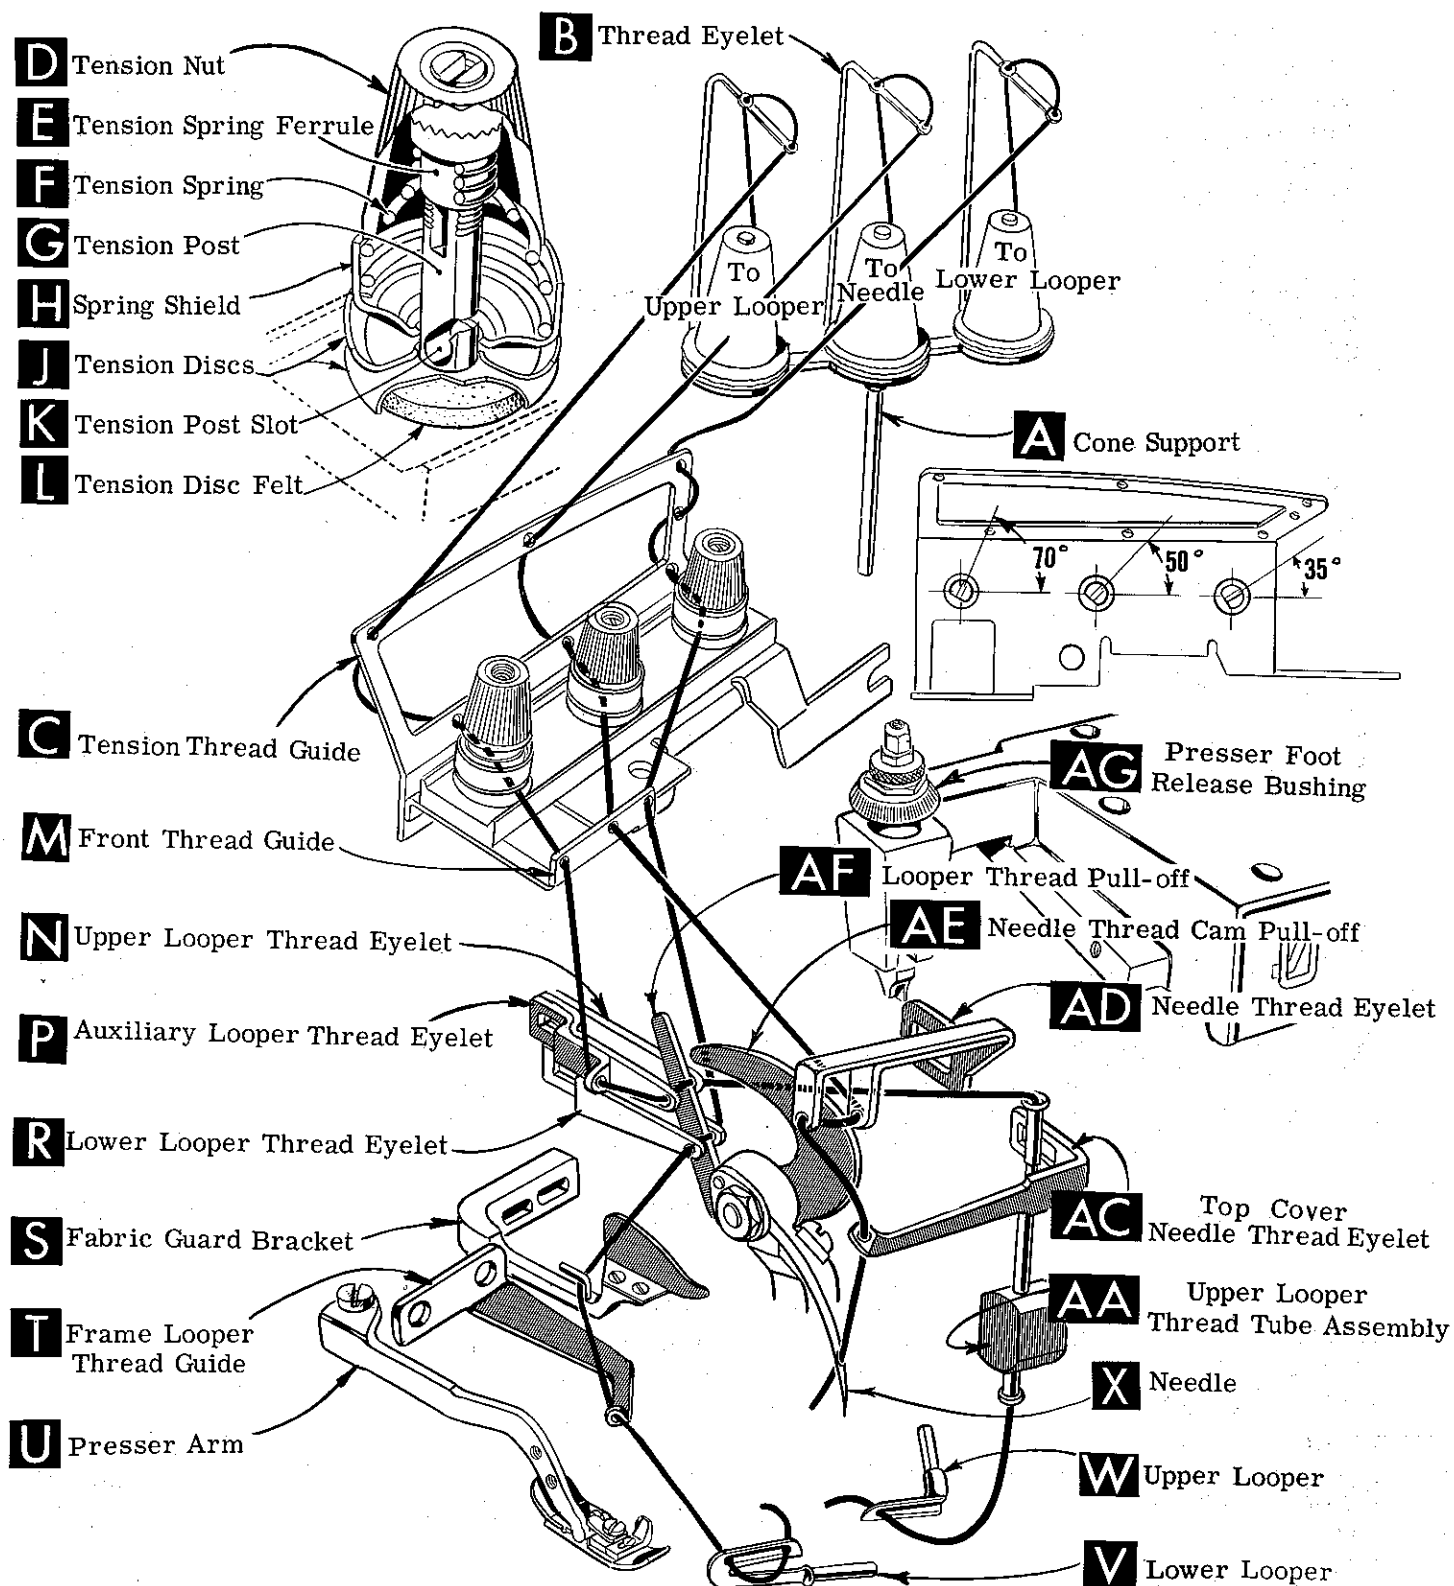

Fig. 1
Release pressure on presser foot by turning presser foot release bushing (AG, Fig. 1) and swing presser arm (U) out of position. Turn handwheel in operating direction until needle is at its lowest point of travel. Using hexagonal socket wrench No. 21388 AU, furnished with machine, loosen needle clamp nut about 1/4 turn. Again turn handwheel until needle is at high position and withdraw needle.
After thread comes from cones on cone support (A, Fig. 1) it is brought up through the back hole of thread eyelet (B), then down through the front hole of thread eyelet. Next it is threaded through the upper hole of tension thread guide (C) from front to back and then through the lower hole from back to front.
Only parts involved in threading are shown in threading diagram (Fig. 1). Parts are placed in their relative positions for clarity.
Be sure the threads, as they come from the tension thread guide (C) are between tension discs (J) and in tension post slot (K) in tension post (G). The tension posts should be positioned so the tension post slot will be at the approximate angle for the different threads as indicated in Fig. 1.
Thread lower looper thread through right eyelet of front thread guide (M). Then double end of thread and lead it through both eyes of lower looper thread eyelet (R, Fig. 1) from right to left. Note: thread must pass in front of looper thread pull-off (AF). Lead thread behind fabric guard (S) and through eyelet hole of frame looper thread guide (T). Turn handwheel in operating direction until heel of lower looper (V) is all the way to the left; then thread through both eyes from left to right. Left eye of lower looper can be threaded easily if tweezers are in left hand.
Thread upper looper thread through left eyelet of front thread guide (M, Fig. 1). Turn handwheel until point of upper looper (W) is all the way left. Lead thread through auxiliary looper thread eyelet (P) from back to front, then through both eyes of upper looper thread eyelet (N) from left to right. NOTE: Thread must pass in front of looper thread pull-off (AF). After pulling up upper looper thread tube assembly (AA), lead the thread under neck of top cover casting and down through thread tube assembly (AA). Pull thread out bottom of tube, push tube down, and then insert thread through upper looper eye from front to back.
Thread needle thread through middle eyelet of front thread guide (M). Then turn handwheel in operating direction until needle (X, Fig. 1) is at its highest position. Insert needle thread from right to left, through both eyes of needle thread eyelet (AD), under neck of top cover casting; then down through hole in top cover needle thread eyelet (AC). Thread needle from front.
The amount of tension on needle and looper threads is regulated by the tension nuts (D, Fig. 1). Tension on threads should be only enough to secure proper stitch formation.